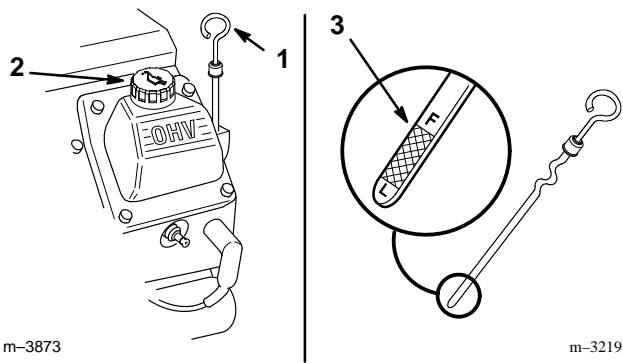

Figure 5
2. Clean around the oil dipstick (Fig. 5) so dirt cannot fall into the filler hole and damage the engine.
3. Pull out the oil dipstick and wipe the metal end clean (Fig. 5).
4. Slide the oil dipstick fully into the filler tube (Fig. 5). Pull the dipstick out and look at the metal end. If oil level is low, slowly pour only enough oil into the filler tube to raise the level to the "FULL" mark.